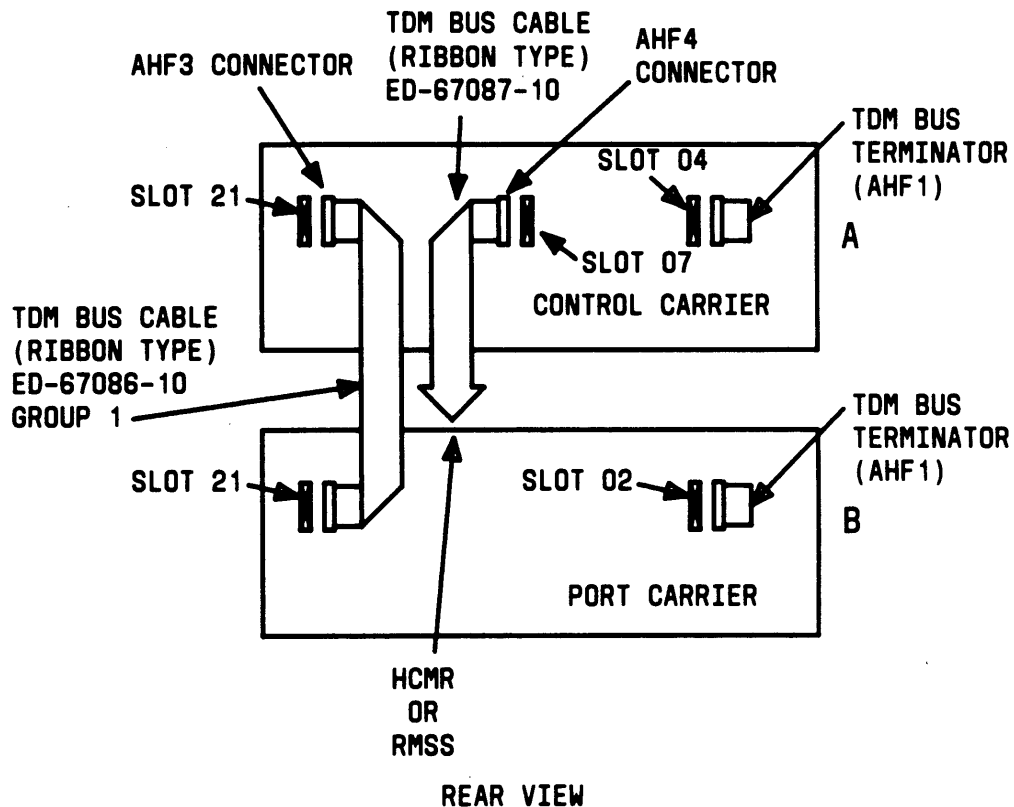

Figure 19. Small Cabinet TDM Bus Wiring Diagram
- Ž Unplug and remove the TDM bus cable from the control carrier and port carrier (Figure 19).